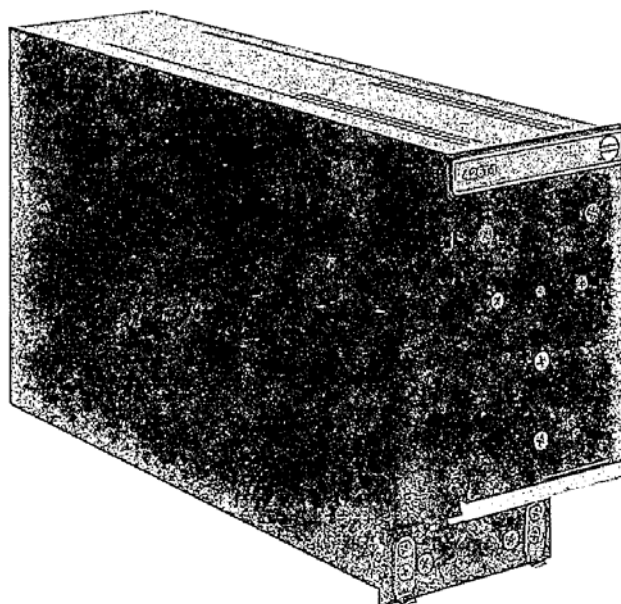

Figure 1. 426T-1 Power Inverter
1.2 DESCRIPTION OF THE UNIT. (See figure 1.)